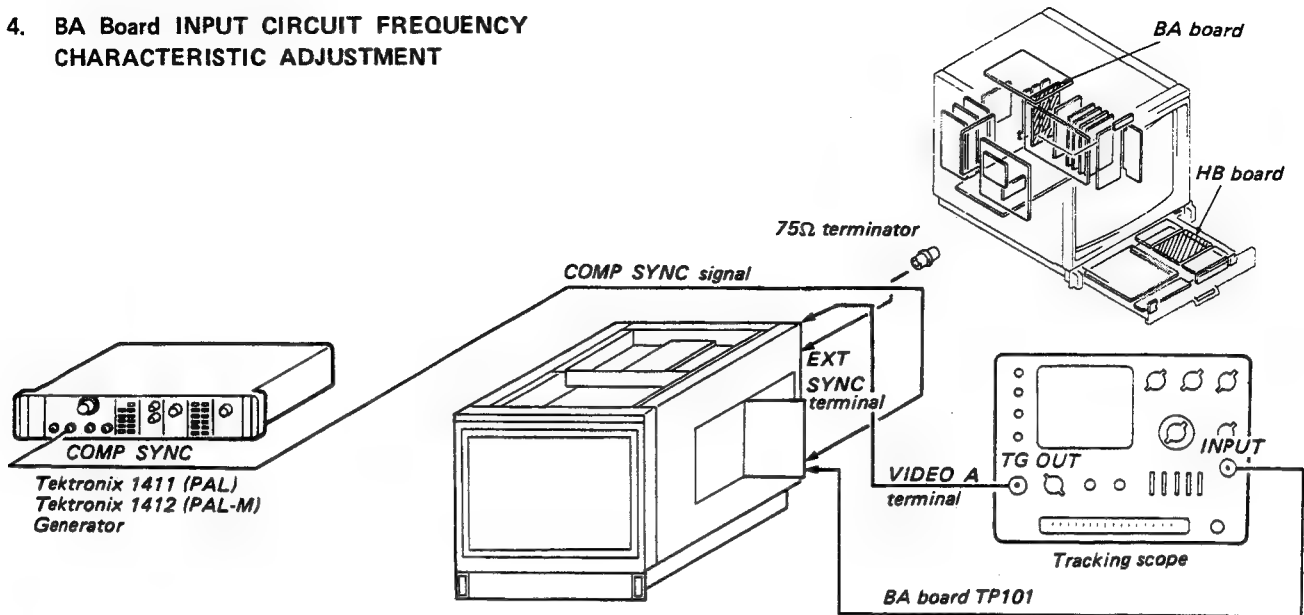
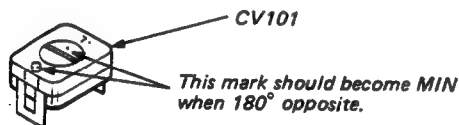

Fig. 4-1
Fig. 4-2
- Complete the connection as shown in Fig. 4-1.
- INPUT selector A (ON)
- SYNC selector EXT (ON)
- Adjust CV101 so that minimum as shown in Fig. 4-2.